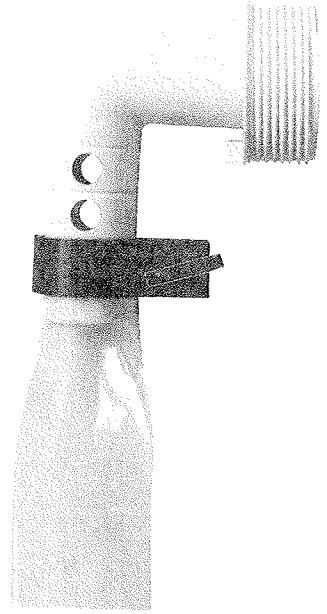

FIGURE 4
2. Slide the Threaded Insert (17) over the Elbow Hose Connector (16) as shown in Figure 4. The Threaded Insert (17) is a tight fit around the turn in the Elbow Hose Connector (16), therefore, slight pressure is needed. This is your inlet adapter.